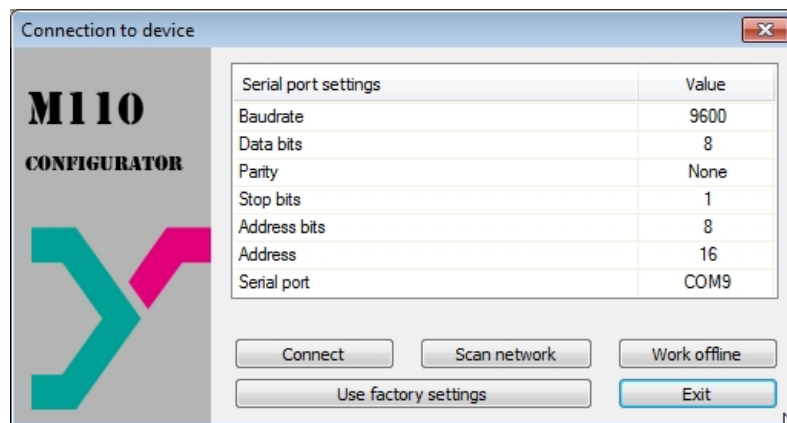

Fig. 8.1 M110 Configurator start window
- Enter value from Table 8.1 in window "Connect Device" or press button "Use factory settings" (refer to Fig. 8.1).